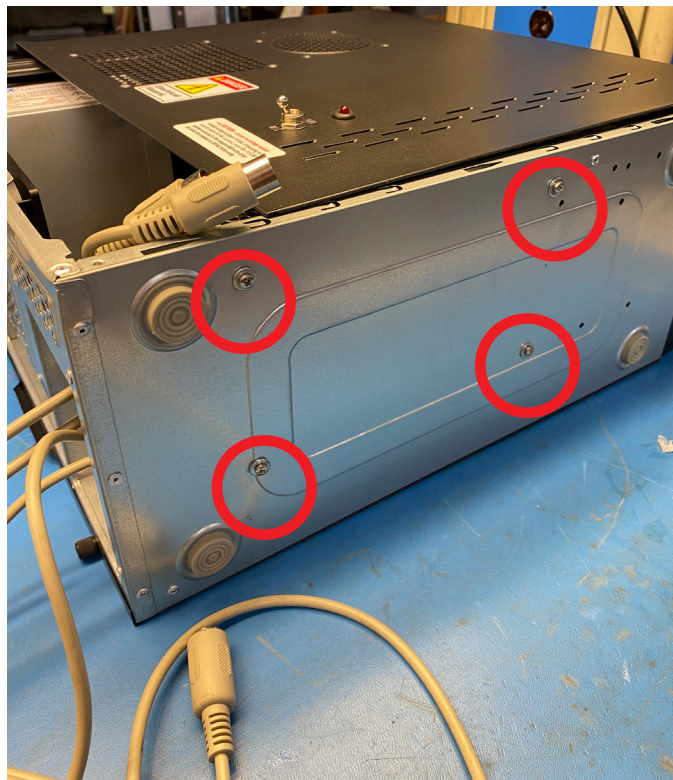

FIGURE 5
4. After all of the stepper motor cables are removed from the board, turn the PC on its side and remove the (4) screws that hold the driver box in place (see Figure 5).